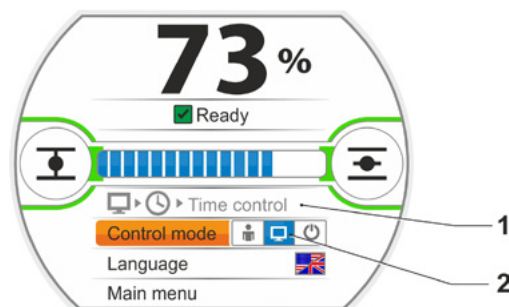

Fig. 2: Time control active
6. Set 'Control mode' to REMOTE (fig. 2, item 2). In the first line of the start menu, the display shows that time control is active (item 1).